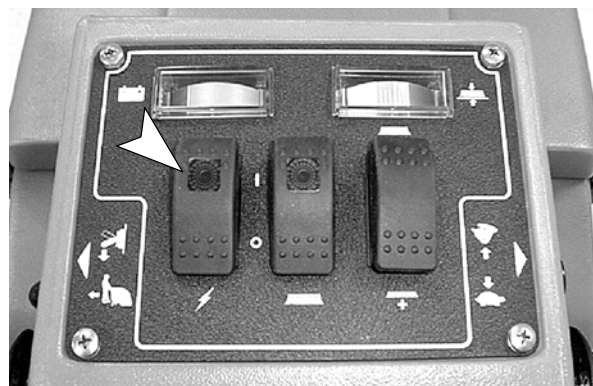

FIG. 9
1. Turn on key, if equipped, then turn on the main power switch (Figure 9).